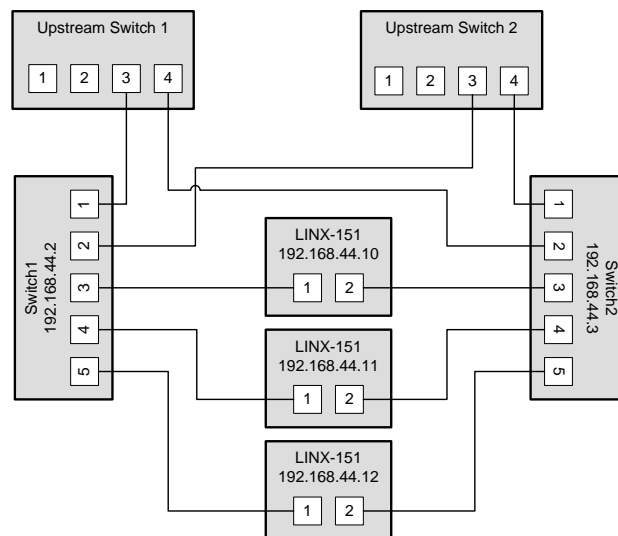

Figure 358: Fully redundant Ethernet topology
**Fully redundant topology:** Both Ethernet ports are connected to a different upstream switch. Thus, a single cable or upstream switch problem can be tolerated. This topology requires RSTP. In Figure 358, the LINX-151 with IP addresses 192.168.44.10 to 192.168.44.12 are connected in this way. This connection scheme increases switch and cabling costs, but increases network resilience. Note that the upstream network is connected via the lowest-numbered ports. If this is not possible, the ports need to be configured to the lowest STP port priority value (which is the highest priority).
**Redundant upstream connection:** Switch1 and Switch2 are both connected to the upstream network, either to two ports on the same switch or to two redundant upstream switches. In this case, RSTP is needed to ensure a loop-free topology between the upstream switches, Switch1 and Switch2, so the RSTP domain includes the upstream network and the chained L-INX/L-GATE devices. The configuration of Switch1 and Switch2 need to ensure that they are not selected as the root bridge. If possible device communication should be bound to a separate VLAN and MSTP (Multiple Spanning Tree Protocol) should be employed to isolate the spanning tree operations. This topology is shown in Figure 358.
The following example shows the configuration commands for Switch1, Switch2 and the upstream switch (HP Procurve syntax) in the setup shown in Figure 358.